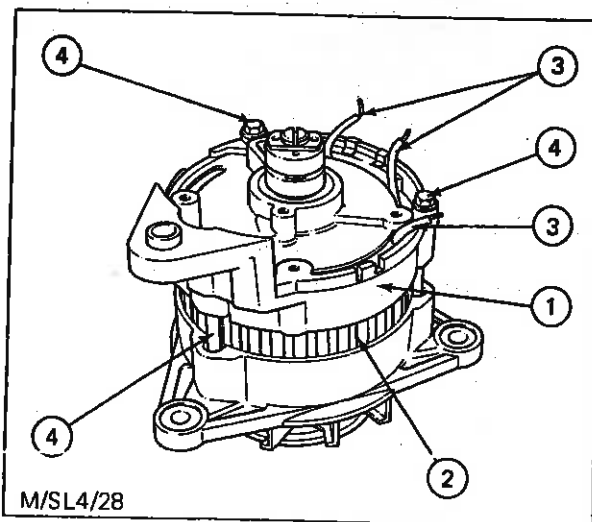

Fig. 44 - Replacing Slip Ring End Bracket
4. Offer up the slip ring end bracket (1) to the stator (2) so that the lines scribed when dismantling align and the three stator leads (3) pass through the end bracket slots as shown - see Fig. 44.